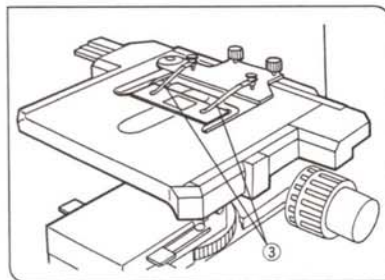
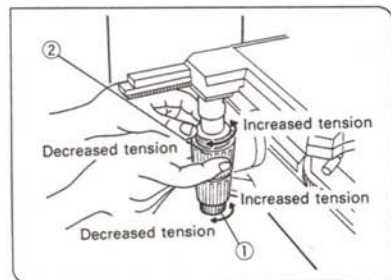

Fig. 22
Fig. 23
1. Loosen the filter cassette clamping screw ①. (Fig. 22)
2. Holding the filter cassette above the light exit glass, align the key ② with the slot ③ and press the filter cassette into place from above.
3. Rotate the filter cassette to align its sides with the base. (Fig. 23)
4. Align the clamping screw ① with the positioning hole ④ on the light exit, then tighten the screw to fasten the filter cassette.
(Fig. 23)